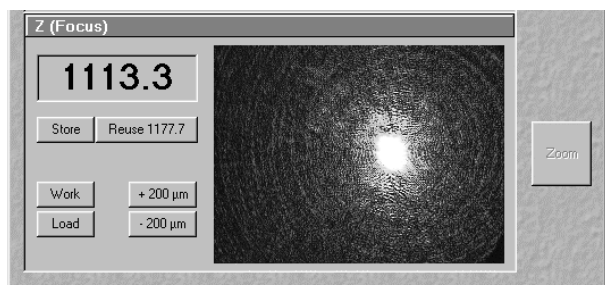

Fig. 5-171 Upper cover slip surface
- Having cautiously moved over a short distance the cover slip reflection should look as shown in (Fig. 5-171). The upper cover slip surface has been found.